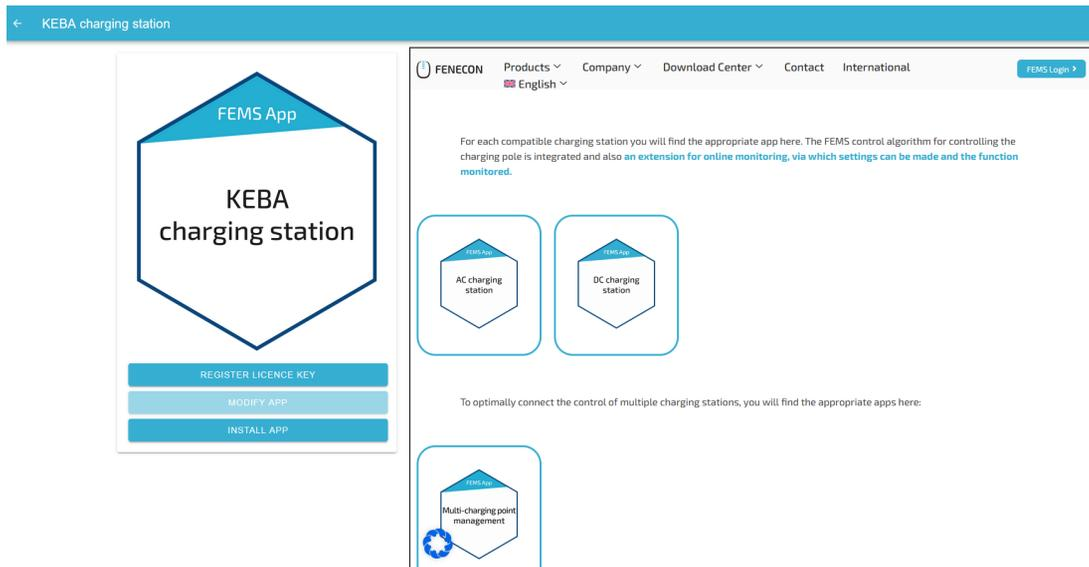

Figure 19. App installation — Variant 2: Step 3
- Figure 19. App installation — Variant 2: Step 3